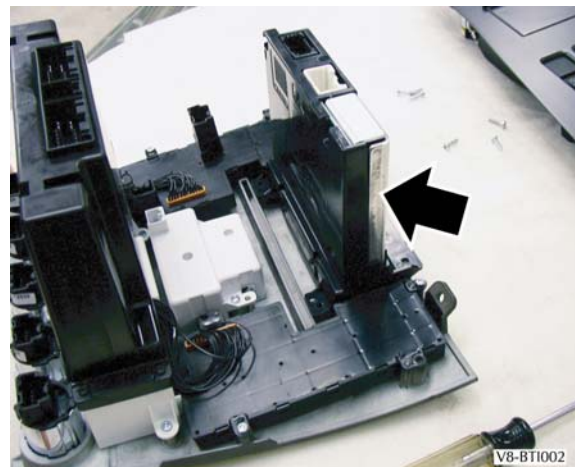

Figure 1
7. Remove the six self-tapping screws that attach the Infotainment Control Module (ICM) to the centre stack (see Figure 1).